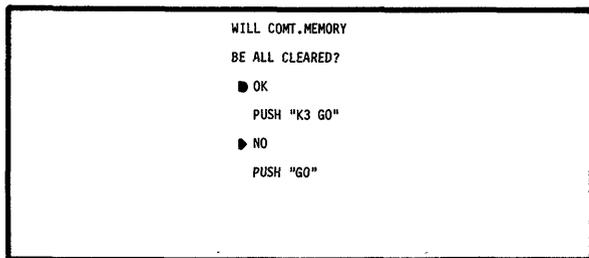

Fig. 9.16
By pressing the **[VER (COM)]** key, the comment memory area clear screen is displayed as shown in Fig. 9.16.
- When it is desired to restore the comment memory area clear screen, press the **VER (COM)** key, and the screen shown in Fig. 9.16 is restored.